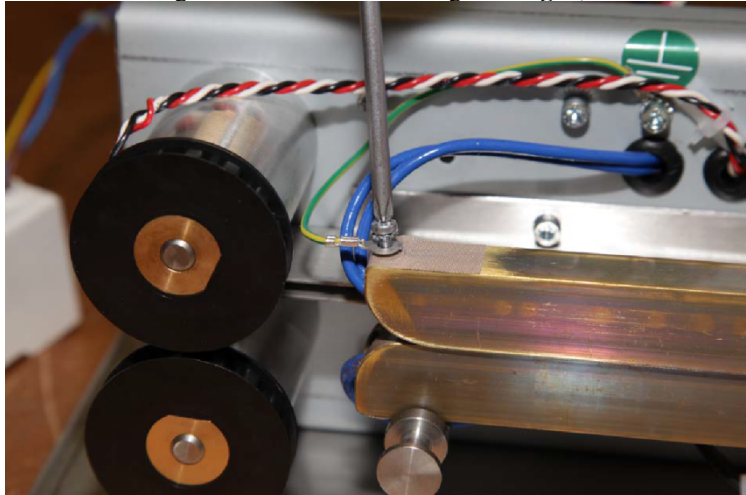

Figure 8
8. Using a Phillips head screwdriver, unscrew the earth wire from the heating bar and pull out the heating element from the heating bar. **Fig. 8, 8A**